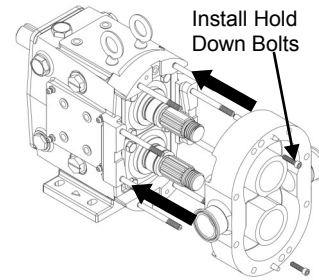

Figure 55: Installing Pump Body
1) Make sure all seal components are installed by following “Seal Maintenance” instruction provided on pages 17-20. Check to ensure all dowels are in place and that all parts including body, rotors and jam nuts are clean and free of foreign matter. Slowly slide the body over the gear case studs and shafts, ensuring the seals are kept in place and not damaged (Figure 55). Install the two hold down bolts and tighten the body against the gear case to ensure the dowels are engaged. Rotate the shafts to make sure there is no interference with the seals.